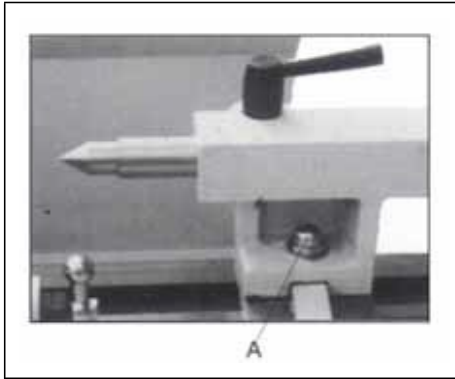

Fig.9
When you are going to change position or replace the tailstock you need to loosen the nut as shown in (A) of Fig.9.